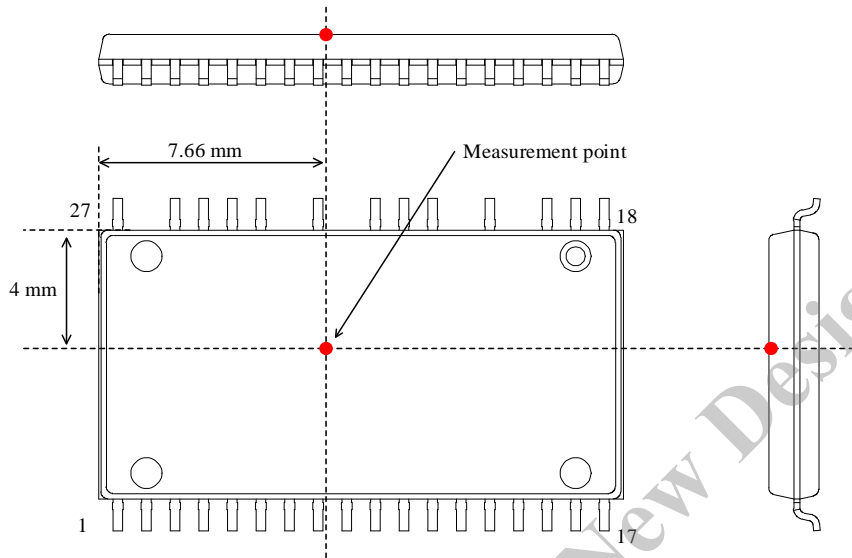

Figure 3-1. Case Temperature Measurement Point
(1) Refers to a case temperature at the measurement point described in Figure 3-1. Mounted on a CEM-3 glass (1.6 mm in thickness, 35  $\mu\text{m}$  in copper foil thickness), and measured under natural air cooling without silicone potting.